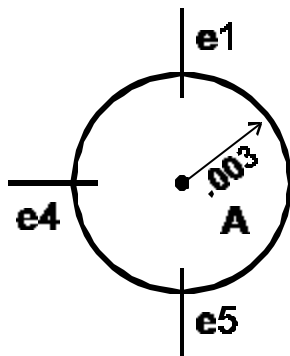

Figure 3
- Since CAD-X used a .003mm tolerance criteria for determining if a vertex is on an edge curve, a sphere of radius .003mm centered at A will contain “end segments” of e1, e4, and e5 as in Figure 3. Thus, A is on e1, e4, and e5 in CAD-X.